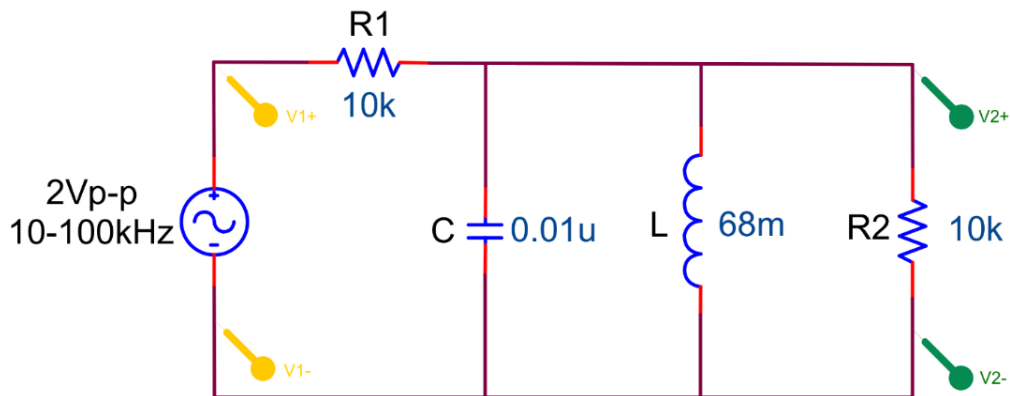

Figure 15.8
- Construct the circuit of Figure 15.8. Vary the frequency from 10Hz to 100kHz and use the oscilloscope to measure the magnitude of V2. Make sure that the input voltage remains constant throughout the measurements. Plot the magnitude of V2 vs. frequency on semi-log graph (frequency on log scale).
4. Use the AC analysis of SPICE to plot the magnitude of V2 versus frequency for Figure 15.8. How do your results compare to those obtained in part a?